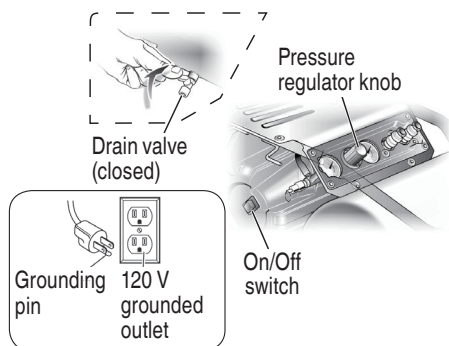

Fig. 10
- Ensure the tank drain valve is closed (Fig. 10).
- Ensure the ON/OFF switch is in the OFF (O) position and the air compressor is unplugged (Fig. 10).
- Ensure the pressure regulator knob is turned fully counterclockwise (Fig. 10).